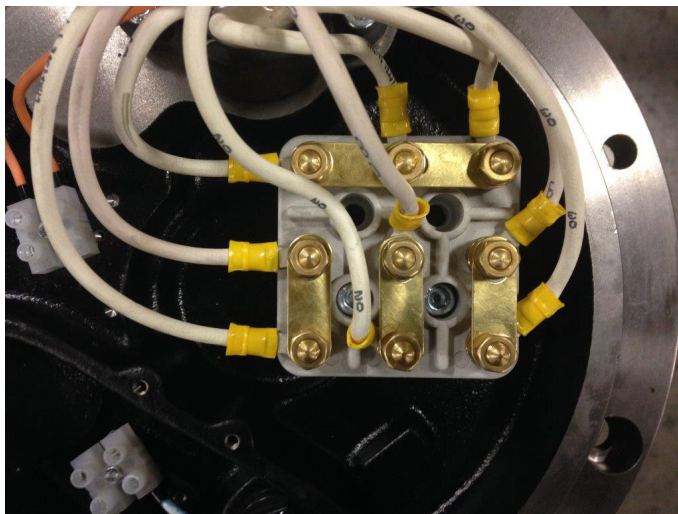
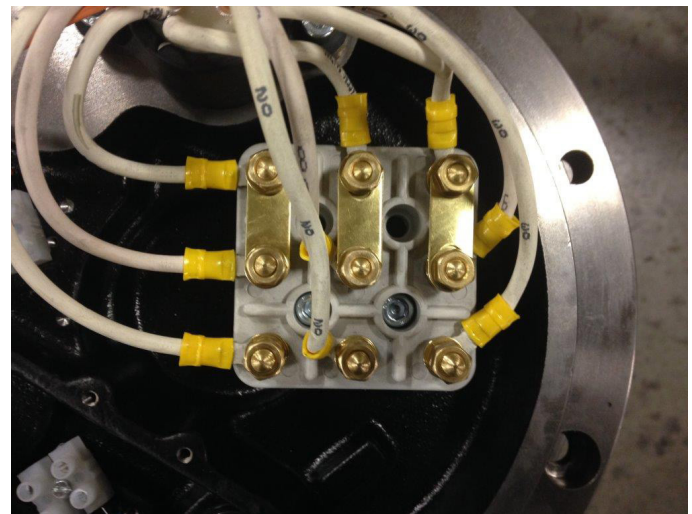

Fig. 4.
Fig. 5.
5. Remove the terminal block securing nuts, and move the brass jumpers to the correct location for required voltage per Fig. 4 (230V) - Fig. 5 (460V) below. Take care not to over tighten terminal nuts.